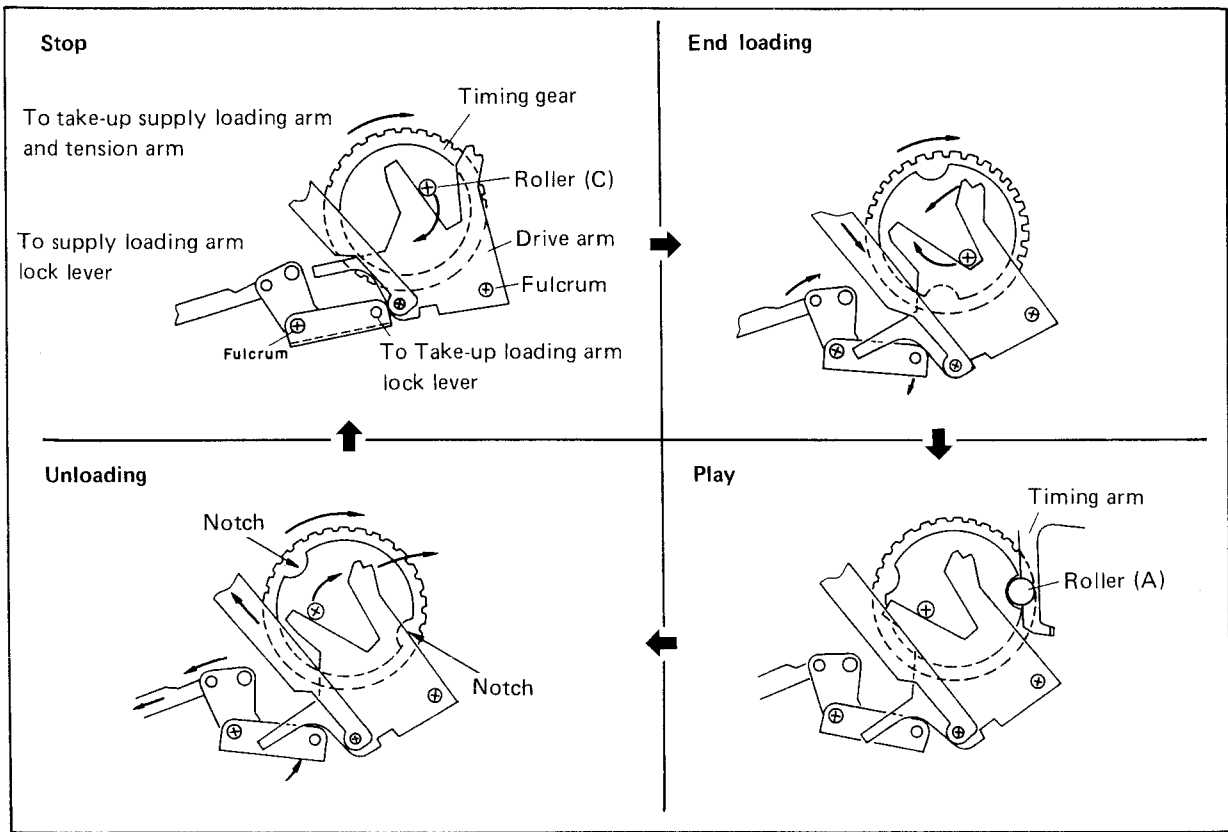
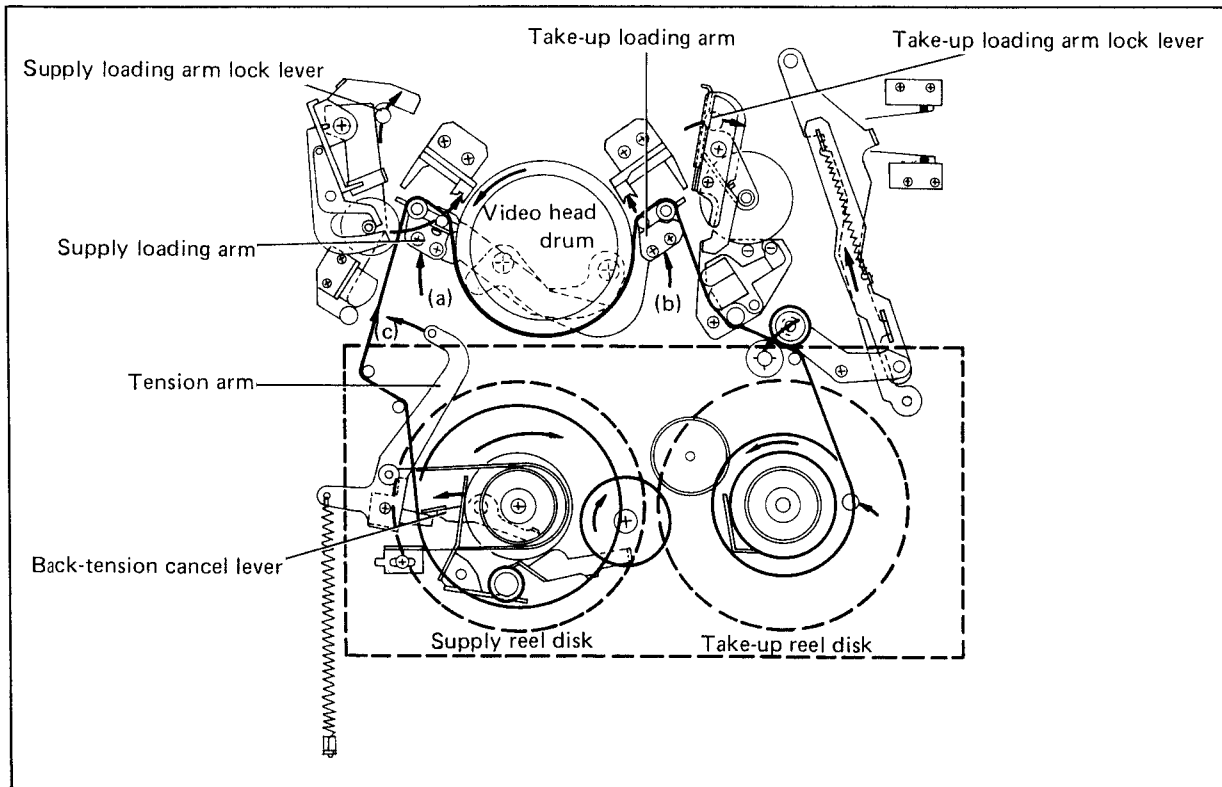

Fig. 2-10
Fig. 2-11 Loading-2 mechanism (Top view)
On the other hand, by the rotation of the roller (C), as shown in Fig. 2-10, namely the counterclockwise movement of the drive arm, the arm drive plate connected with the drive arm moves to arrow (d) and also the slide lever is pulled toward to arrow (d). Accordingly, the rotary lever starts clockwise rotation (e). By the clockwise rotation of the rotary lever, the take-up loading arm lever moved to arrow (f) and the take-up loading arm starts rotation clockwise to pull the video tape
As shown in Fig. 2-10, the rotary lever rotates clockwise (e) by the movement of the drive arm. As a result, the supply loading arm and the take-up loading arm are moved to arrows (a), (b) as shown in Fig. 2-11. And also, the tension arm is made free by the movement of the tension cam on the bottom side, and the tension arm rotates counterclockwise (c) by the force of the spring until the tension arm contacts with the backtension cancel lever. At this time, the backtension is not furnished to the supply reel disk. As the result, video tape is pulled from the cassette by the supply and take-up loading arm.